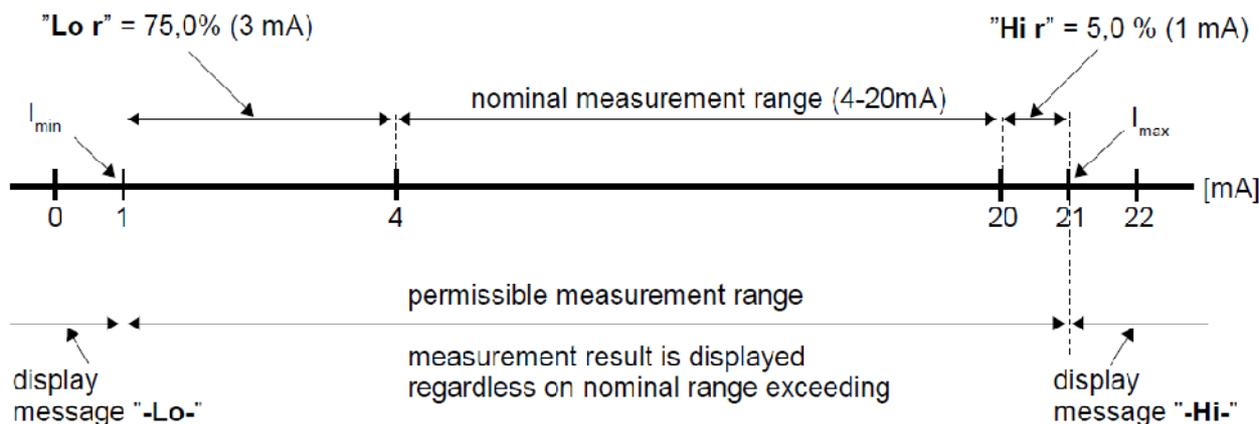

Fig. 7.1. example of definition of permissible range of input signal - “Lo r” and “Hi r” parameters (“4-20” mode)
- these parameters define the expansion of nominal range in percent. They determine the permissible range of input signal (Figure 7.1). The permissible range allow user to exceed the **nominal range** of input signal. If input value is contained in the permissible range a proper result is displayed. If input signal exceeds this range (defined by “Lo r” and “Hi r”), “-Lo-” or “- Hi-” warning is displayed depend on input signal value.